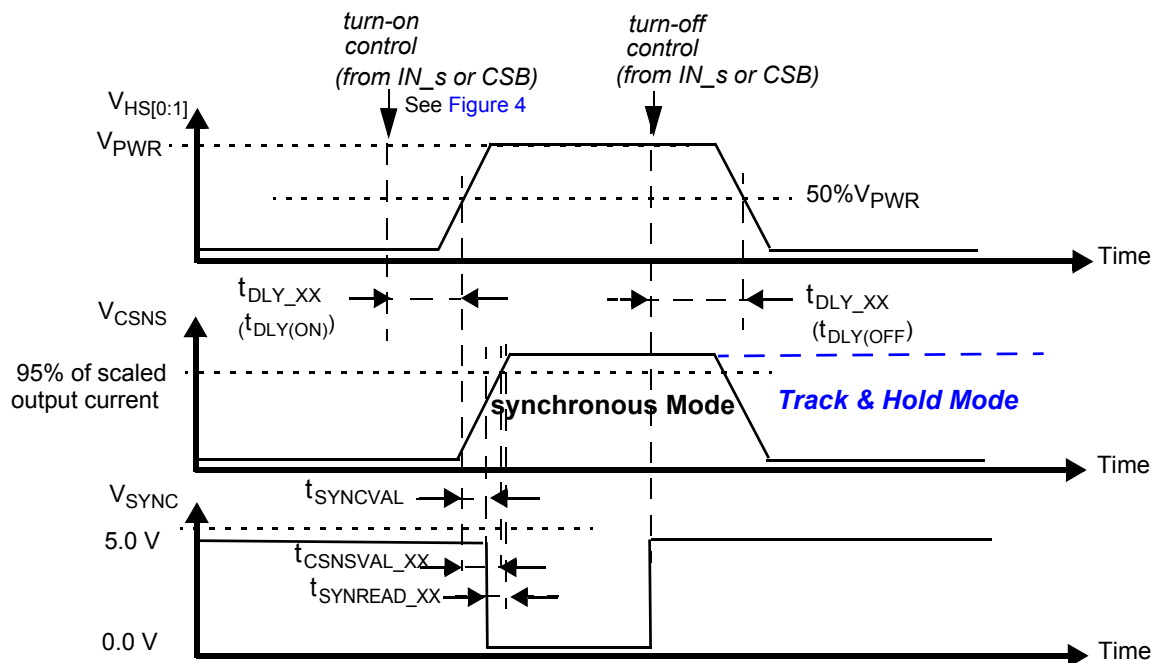

Figure 9. Synchronous & Track-and-Hold Current Sensing Modes: Associated Delay & Settling Times
29. Time required to switch off the channel after detection of overtemperature (OT), overcurrent (OC), SC or UV error (time measured between start of the negative edge on the FSB pin and the falling edge on the output voltage until $V(\text{HS}[0:1]) = 50\%$ of V_{PWR}).
30. Settling time ($= t_{CSNSVAL_XX}$), SYNC output signal delay ($= t_{SYNCVAL_XX}$) and Read-out delay ($= t_{SYNREAD_XX}$) are defined for a stepped load current using a $10\text{ }\Omega$ resistive load for $\text{CSNS_RATIO_s} = 0$. (see Figure 9 and Output Current Monitoring \(CSNS\)).
The CS pin allows independent current monitoring of channel 0 or channel 1 up to the steady-state overcurrent threshold. It can also be used to sense the device temperature. The different functions are selected by setting bits CSNS1_en and CSNS0_en to the appropriate value (Table 22). When the CSNS pin is sensed during switch-off in the (optional) track & hold mode (see Figure 9), it outputs the scaled value of the load current as it was just before turn-Off. When several devices share the same pull-down resistor, the CSNS pins of devices the current of which is not monitored must be tri-stated. This is accomplished by setting CSNS0_en = 0 and CSNS1_en = 0 in the GCR register (Table 9). Settling time ($t_{CSNSVAL_XX}$) is defined as the time between the instant at the middle of the output voltage's rising edge ($HS[0:1] = 50\%$ of V_{PWR}), and the instant at which the voltage on the CSNS-pin has settled to $\pm 5.0\%$ of its final value. Anytime an overcurrent window is active, the CSNS pin is disabled (see Overcurrent Detection on Resistive and Inductive Loads). The current and temperature sensing functions are unavailable in Fail-safe mode and in Normal mode when operating without the V_{DD} supply voltage. In order to generate a voltage output, a pull-down resistor is required ($R(CSNS)=1.0\text{ k}\Omega$ typ. and $470 < R(CSNS) < 10\text{ k}\Omega$). When the current sense resistor connected to the CSNS pin is disconnected, the CSNS voltage is clamped to $V_{CL(CSNS)}$. The CSNS pin can source currents up to about 5.6 mA.
To synchronize current sensing with an external process, the SYNC signal can be connected to a digital input of an external MCU. SYNC is asserted logic low when the current sense signal is accurate and ready to be read. The current sense signal on the CSNS pin has the specified accuracy $t_{SYNCREAD_XX}$ seconds after the falling edge on the SYNC pin (Figure 9) and remains valid until a rising edge is generated. The rising edge that is generated by the SYNC pin at the turn-OFF instant (internal or external) may also be used to implement synchronization with the external MCU. Parameter $t_{SYNCVAL_XX}$ is defined as the time between the instant at the middle of the output-voltage rising edge ($HS[0:1] = 50\%$ of $VPWR$), and the instant at which the voltage on the SYNC-pin drops below 0.4 V (V_{SOL}). The SYNC pins of different devices can be connected together to save μ -controller input channels. However, in this configuration, the CSNS function of only one device should be active at a time. Otherwise, the MCU does not determine the origin of the SYNC signal. The SYNC pin is open drain and requires an external pull-up resistor to VDD.